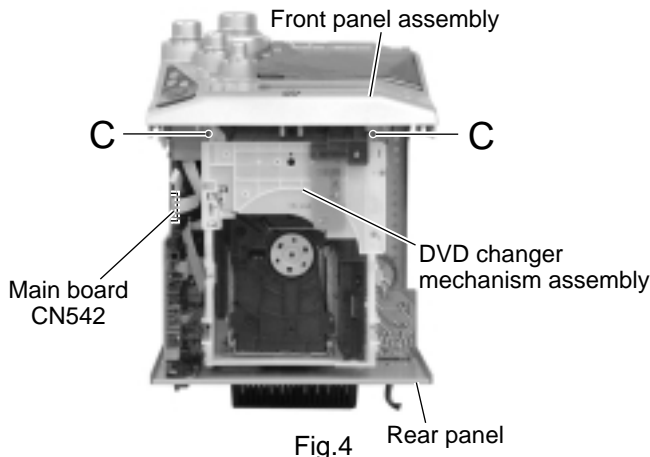

Fig.4
■ **Removing the DVD mechanism assembly (See Fig.4 to 7)**